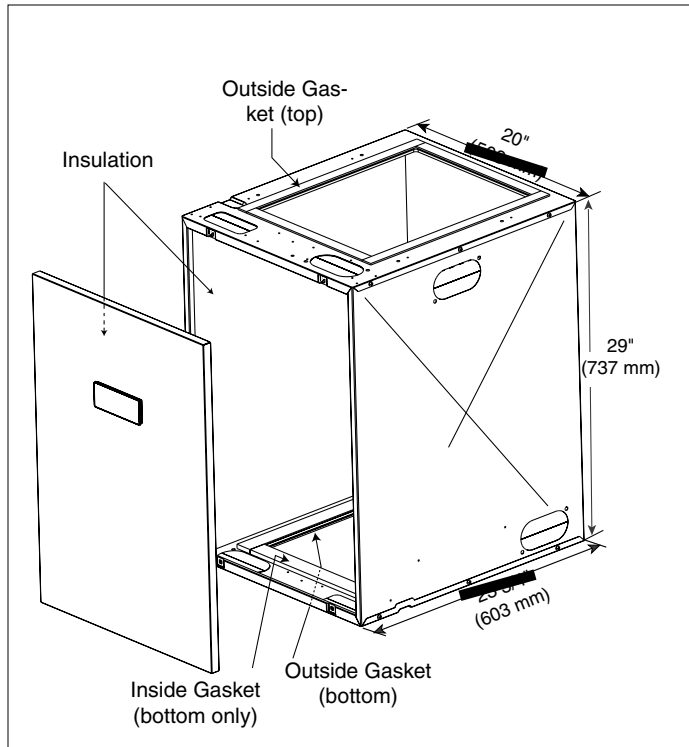
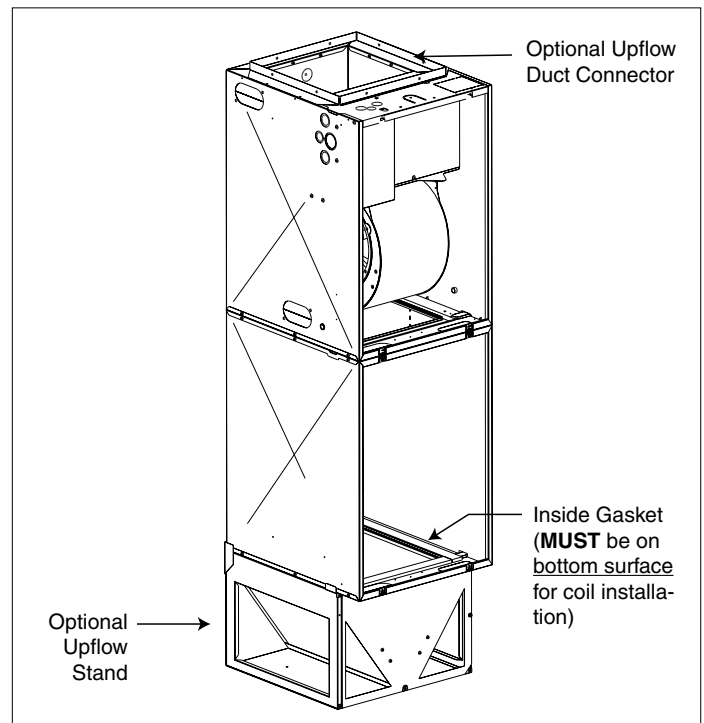
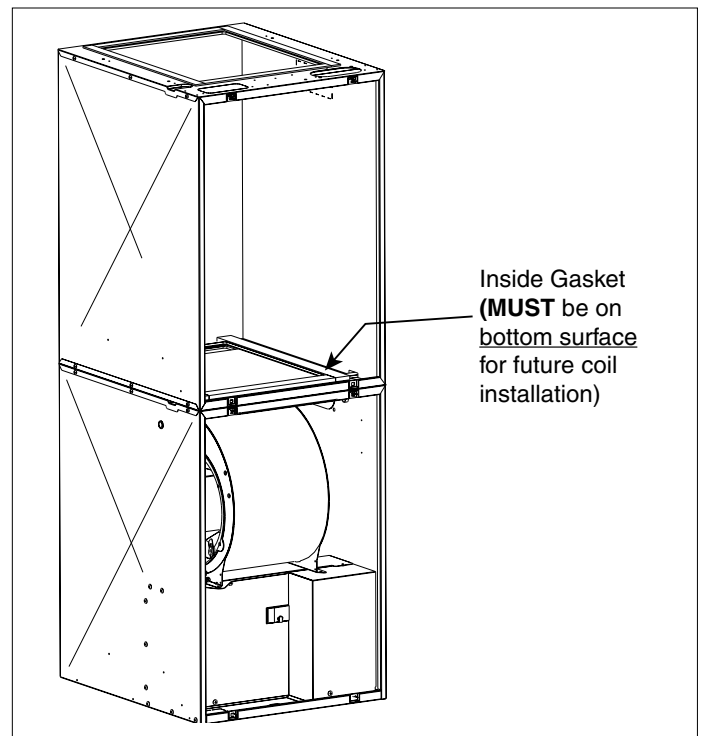

Figure 1. Coil Cabinet
Figure 2. Upflow Installation
Figure 4. Downflow Installation
The cabinet is factory equipped with insulation, and to assure a sealed fit with the electric furnace, the outside top and bottom are factory equipped with gasketing (see Figure 1).
1. After meeting all requirements from the furnace installation instructions, position coil cabinet, with inside gasketed surface toward bottom, on top of optional upflow stand or mounting platform (See Figure 2). Ensure gasket on outside of cabinet remains intact (See Figure 1). Secure with three or more fasteners at holes provided.
2. Position coil cabinet, with inside gasketed surface toward bottom (see Figure 2), over floor cutout and secure with three or more fasteners ensuring gasket on outside of cabinet remains intact. (See Figure 1.)
with inside gasketed surface toward bottom, on top of furnace (See Figure 4). Ensure gasket on outside of cabinet remains intact. Secure with two or more fasteners at holes provided.
1. After securing the furnace as stated in its installation instructions (with the exception of the attachment of the return air grille mounting frame), position coil cabinet, with inside gasketed surface toward bottom, on top of furnace (See Figure 4). Ensure gasket on outside of cabinet remains intact (see Figure 1). Secure with two or more fasteners at holes provided.